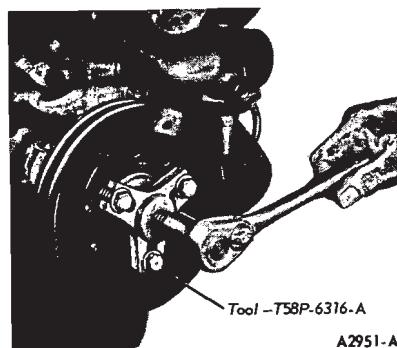

FIG. 20—Removing Crankshaft Vibration Damper
7. Remove bolt and washer attaching crankshaft damper. Remove crankshaft damper with Tool T58P-6316-B (Fig. 20). Remove Woodruff key from crankshaft.